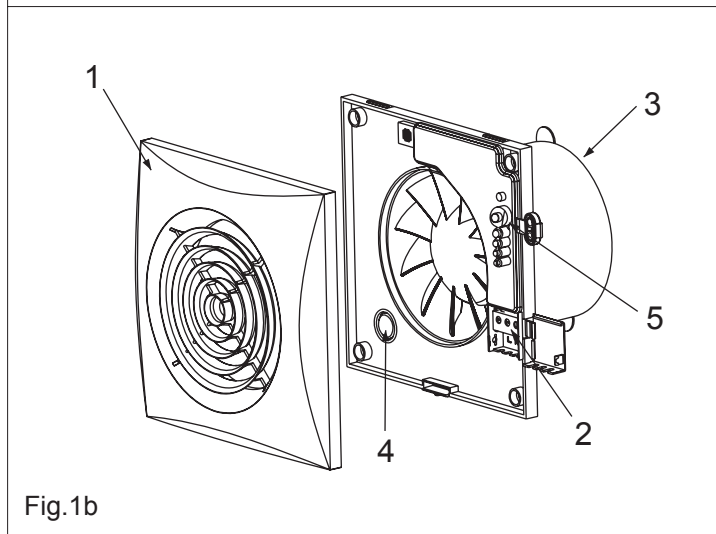

Fig.1b
- 5- Instellingsknop (SILENT-100 CHZ VISUAL - fig.1b)